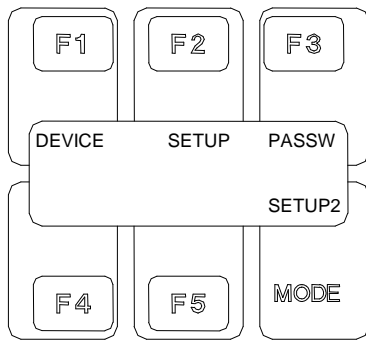

Fig. 37: Setup2 menu
2. Check the fuses on the rear of the shaker, see position (3) and position (4), figure 37. A melted or burned-off fuse link can be detected visually.